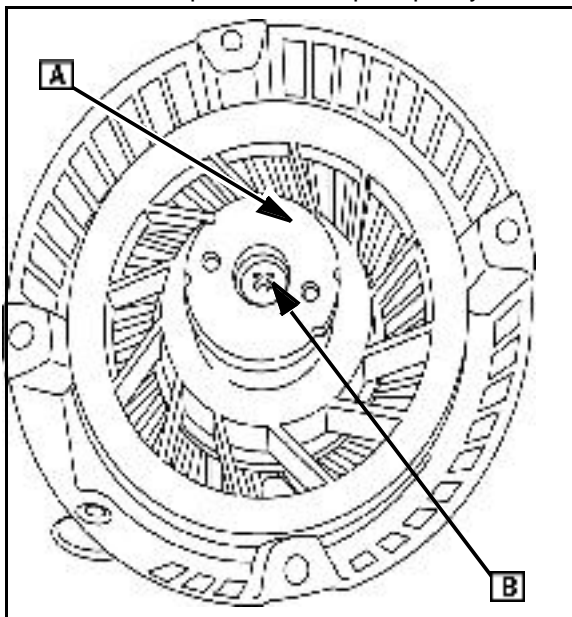

Fig. 27
5. Place retainer (A) on brake spring and partially tighten retainer screw (B) Fig. 27. Pierced holes on retainer must be between pawls and stop on pulley.